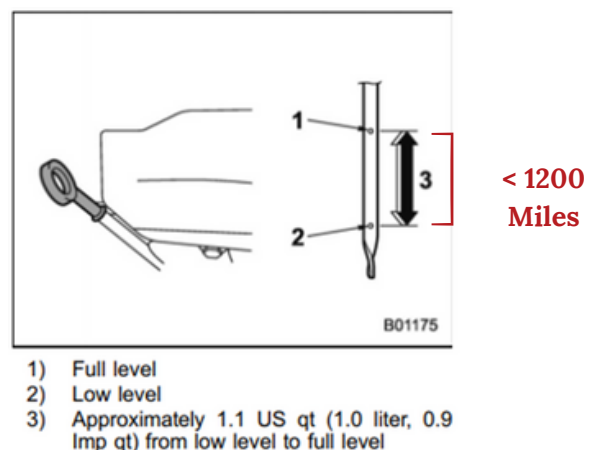

Figure 11: Engine Oil Full Level - Low Level per the Dipstick
3. What is the P-F Interval? To answer this question, let's take a look at the Subaru Forester manual. Refer to Figure 11.